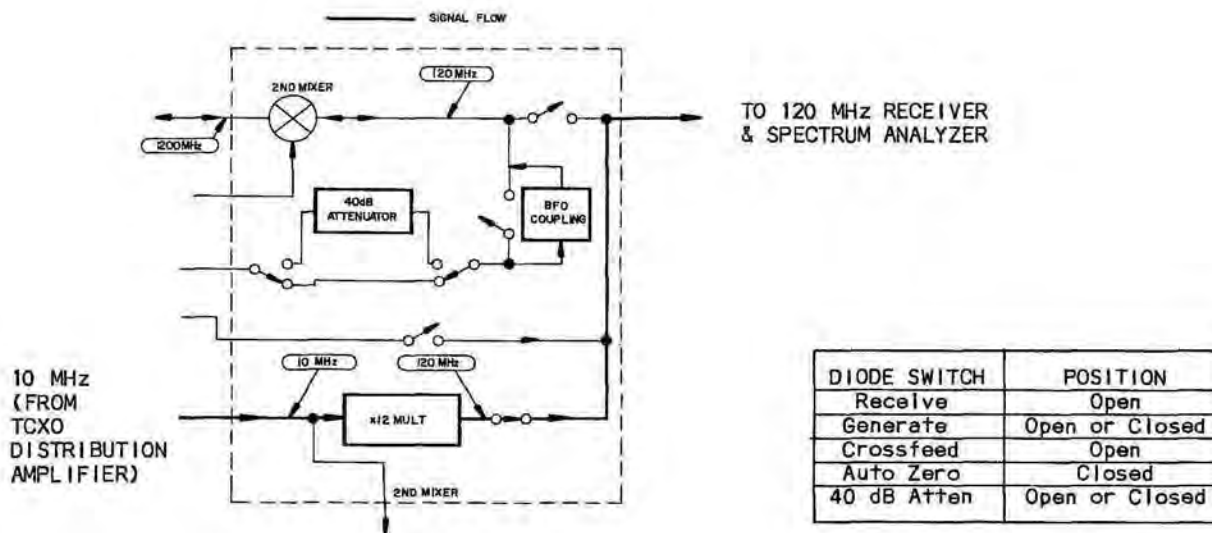

Figure 2-17 2nd Mixer Assy (Auto Zero Reference Signal Flow)
3. Auto Zero Reference Signal Flow (See Figure 2-17)